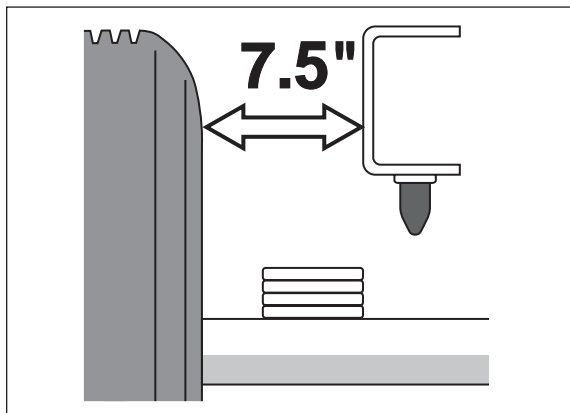

Figure 3
3. Measure the distance between the frame and the tire. This kit requires a minimum of 7.5" of clearance for a fully inflated air spring (Figure 3).